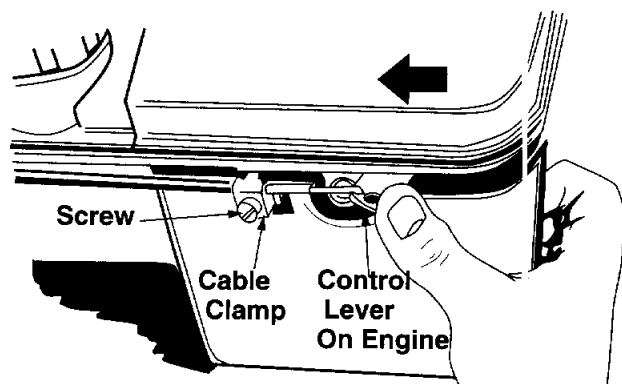

Figure 12.
1. Remove the screw shown in figure 12. Remove the cable clamp from the cable.